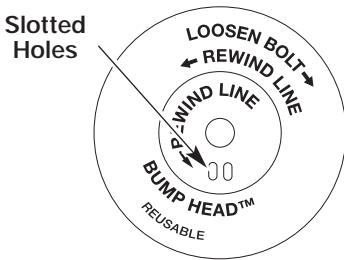

Fig. 27
**NOTE:** SplitLine™ can only be used with the inner reel with the slotted holes. Single line can be used on either type of inner reel. Use Figure 27 to identify the inner reel you have.